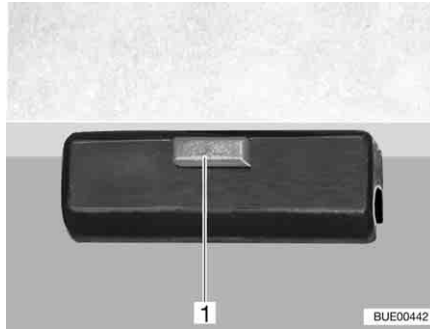

Fig. 105 Lock
- Release the lock (Fig. 105,1) on the table top.